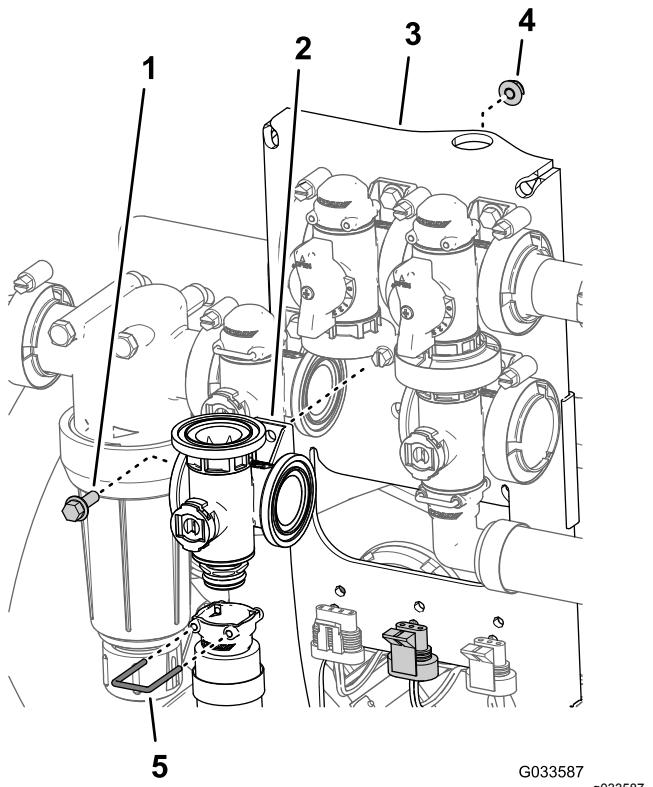

Figure 101
2. Remove the retainer that secure the outlet fitting to the manifold coupling for the agitation valve (Figure 101).
3. Remove the flanged-head bolt (1/4 x 3/4 inch) and flanged locknut (1/4 inch) that secure the agitation valve to the valve mount and remove the valve manifold from the machine (Figure 101).